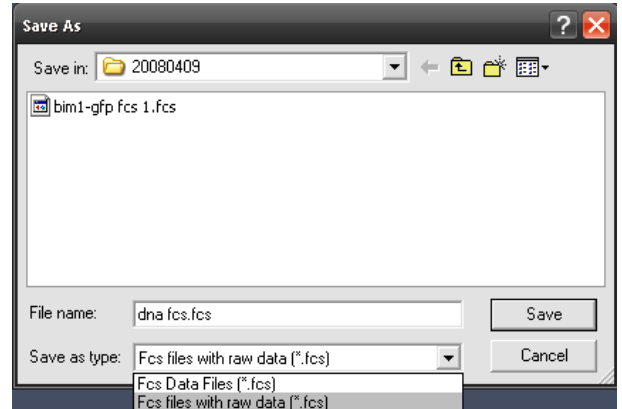

Fig. 9-96 Save Raw Data window
- **Save** allows you to save the whole data set (curves, fitting results, fit parameters, raw data) to a disk. If **Save** is pressed you will have the choice between **FCS data files (.fcs)** without raw data or **FCS files with raw data (.fcs)** attached by selecting the appropriate settings from the pull-down menu (Fig. 9-96).